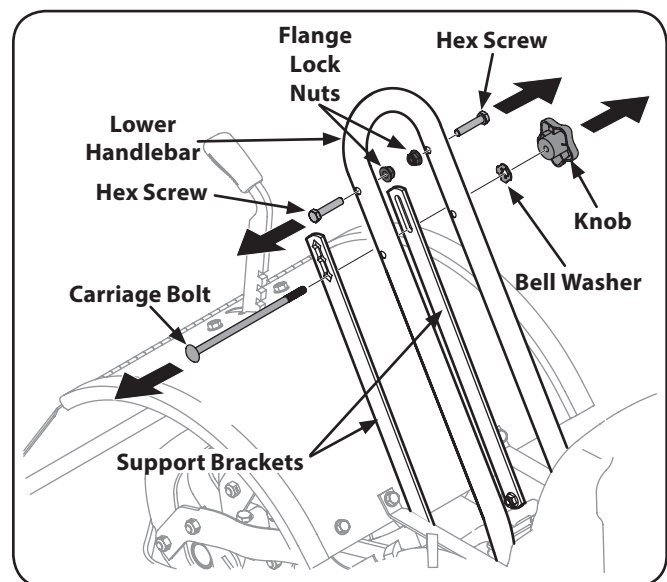

Figure 3-1
1. Remove two hex screws (⅝-18 x 1.50), two flange lock nuts (⅝-18), carriage bolt (⅝-18 x 6.75), bell washer (.326 x .875 x .145) and knob (⅝-18) from the lower handlebar and support brackets. See Fig. 3-1.